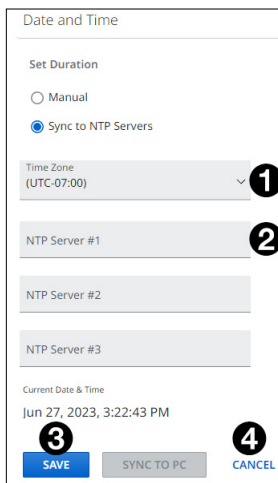

Figure 10. Sync to NTP Servers
2. Select a **Time Zone** from the drop-down list (see figure 10, ①).
3. Click inside the text box and enter the IP address for an NTP server (②). You can enter addresses for up to three servers.
4. Click **SAVE** (③) to save changes or **CANCEL** (④) to exit without saving.